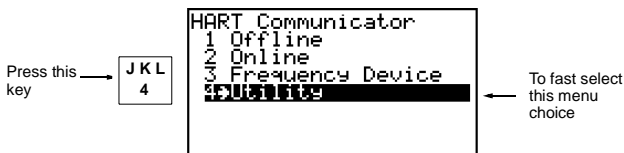

FIGURE 1-7. Quickly Accessing Menus.
**Figure 1-7** shows how to quickly access the Utility menu from the Main menu by pressing the indicated fast key.